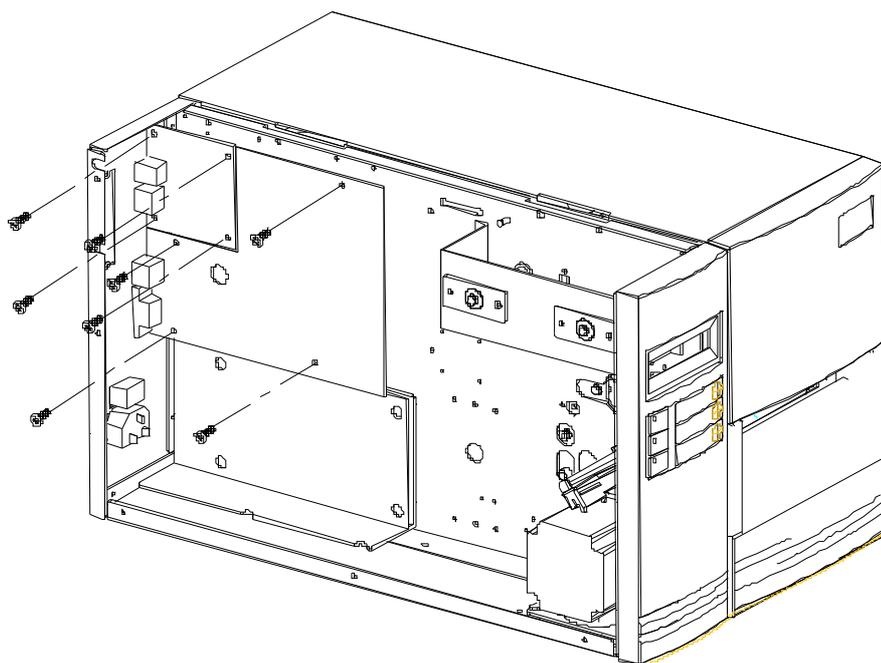

Figure 9.6
4. Release the 8 screws on main-board (Figure 9.6).